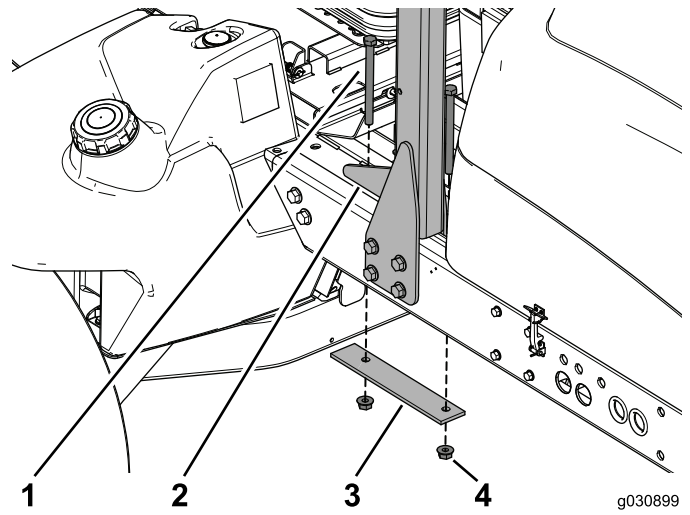

Figure 2
3. Remove the 2 bolts, reinforcement plate, and flange nuts securing the ROPS to the top of the frame (Figure 2).